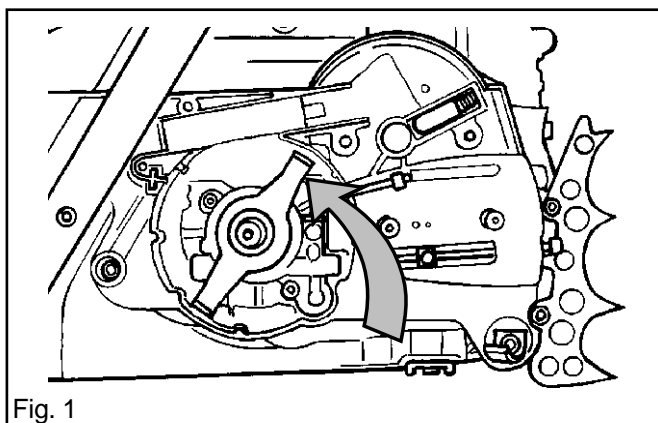

Fig. 1
3. Unscrew the drive wheel. See fig. 1.